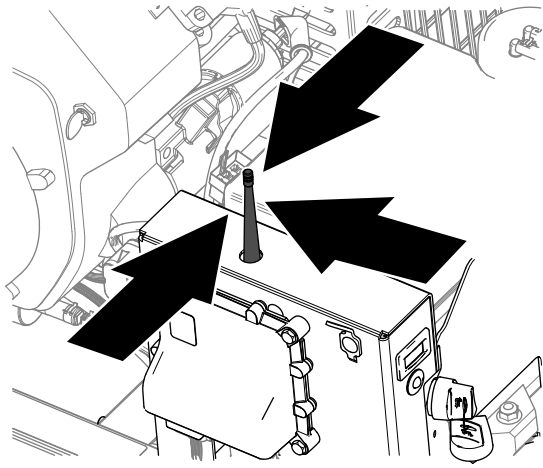

Figure 50
3. While holding the handheld remote, stand near the wireless-control module in an area with an unobstructed, clear line of sight to the antenna (Figure 50).